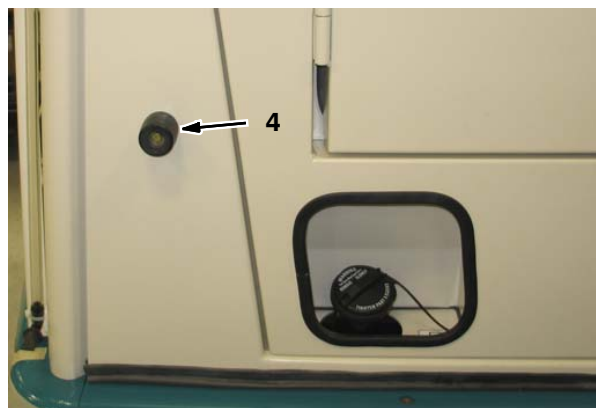
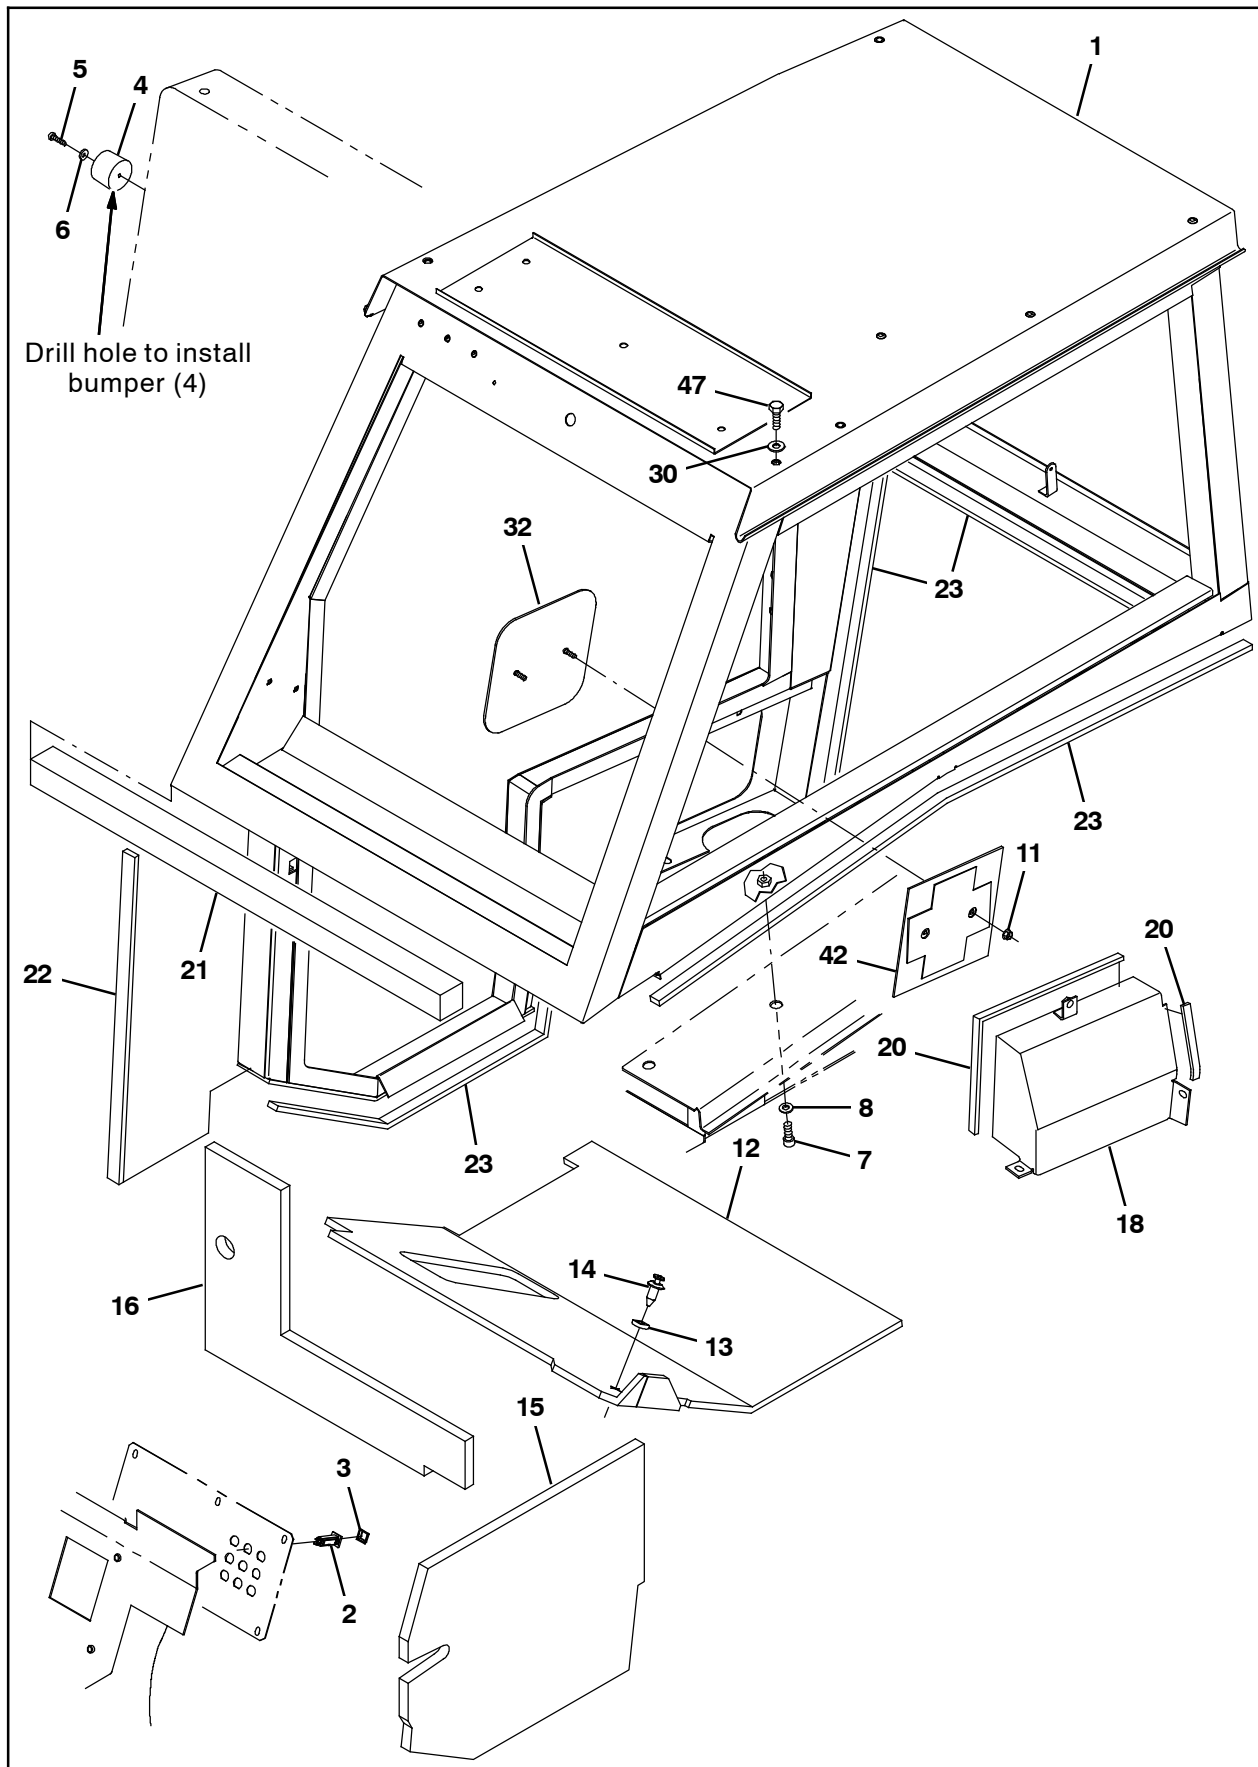

FIG. 10
FIG. 15
25. Drill a hole into the operator compartment. (Fig. 10 / Fig. 15)
26. Use a pan screw (5) and washer (6) to install the rubber bumper (4) onto the operator compartment. (Fig. 10 / Fig. 15)